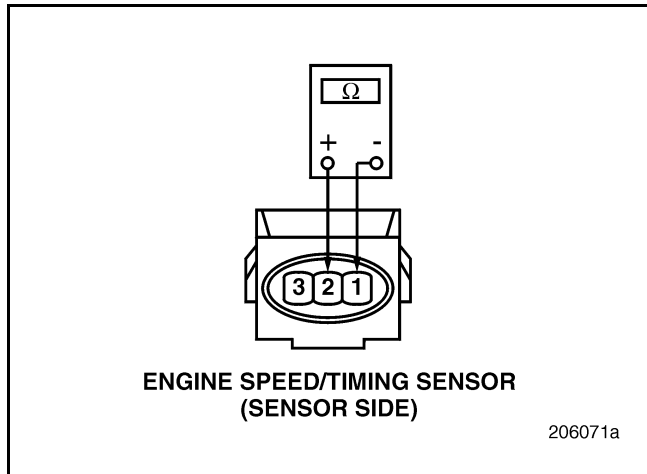

Figure 352
3. Measure the resistance between terminals 1 and 2 on the sensor side of the Engine Speed/Timing (RPM/TDC) Sensor harness connector (see Figure 352).